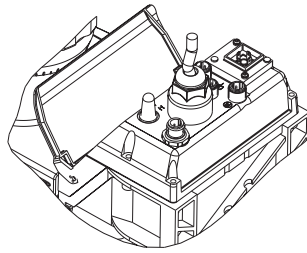

Fig. 22
- ▶ Insert the relay cable plug seal into the relay cover and screw on the plug (see fig. 22)